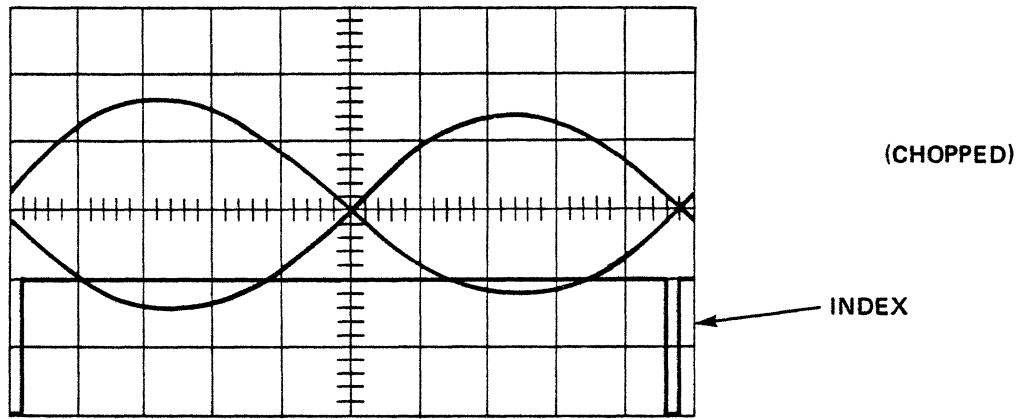

Figure 1. Catseye Pattern
13. Uncalibrate the oscilloscope horizontal until two index pulses can be seen. Adjust the oscilloscope until the two index pulses are on the two outer marks of the oscilloscope scale (SEE Figure 1).
15. Using the head adjusting tool, position the head until the cross-over point is exactly in the center of the oscilloscope scale (See waveforms in Figure 1).